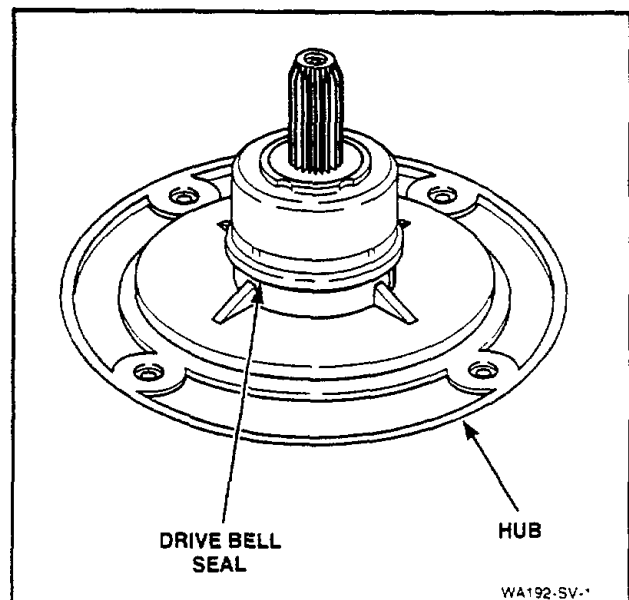
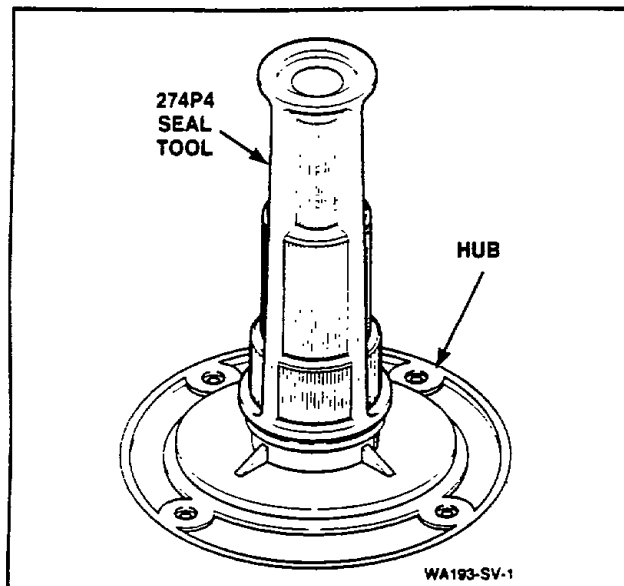

Figure 55
Figure 56
- k. Place new drive bell seal on hub, *Figure 55*, and carefully push seal into position using large end of the No. 274P4 Seal Tool, *Figure 56*.